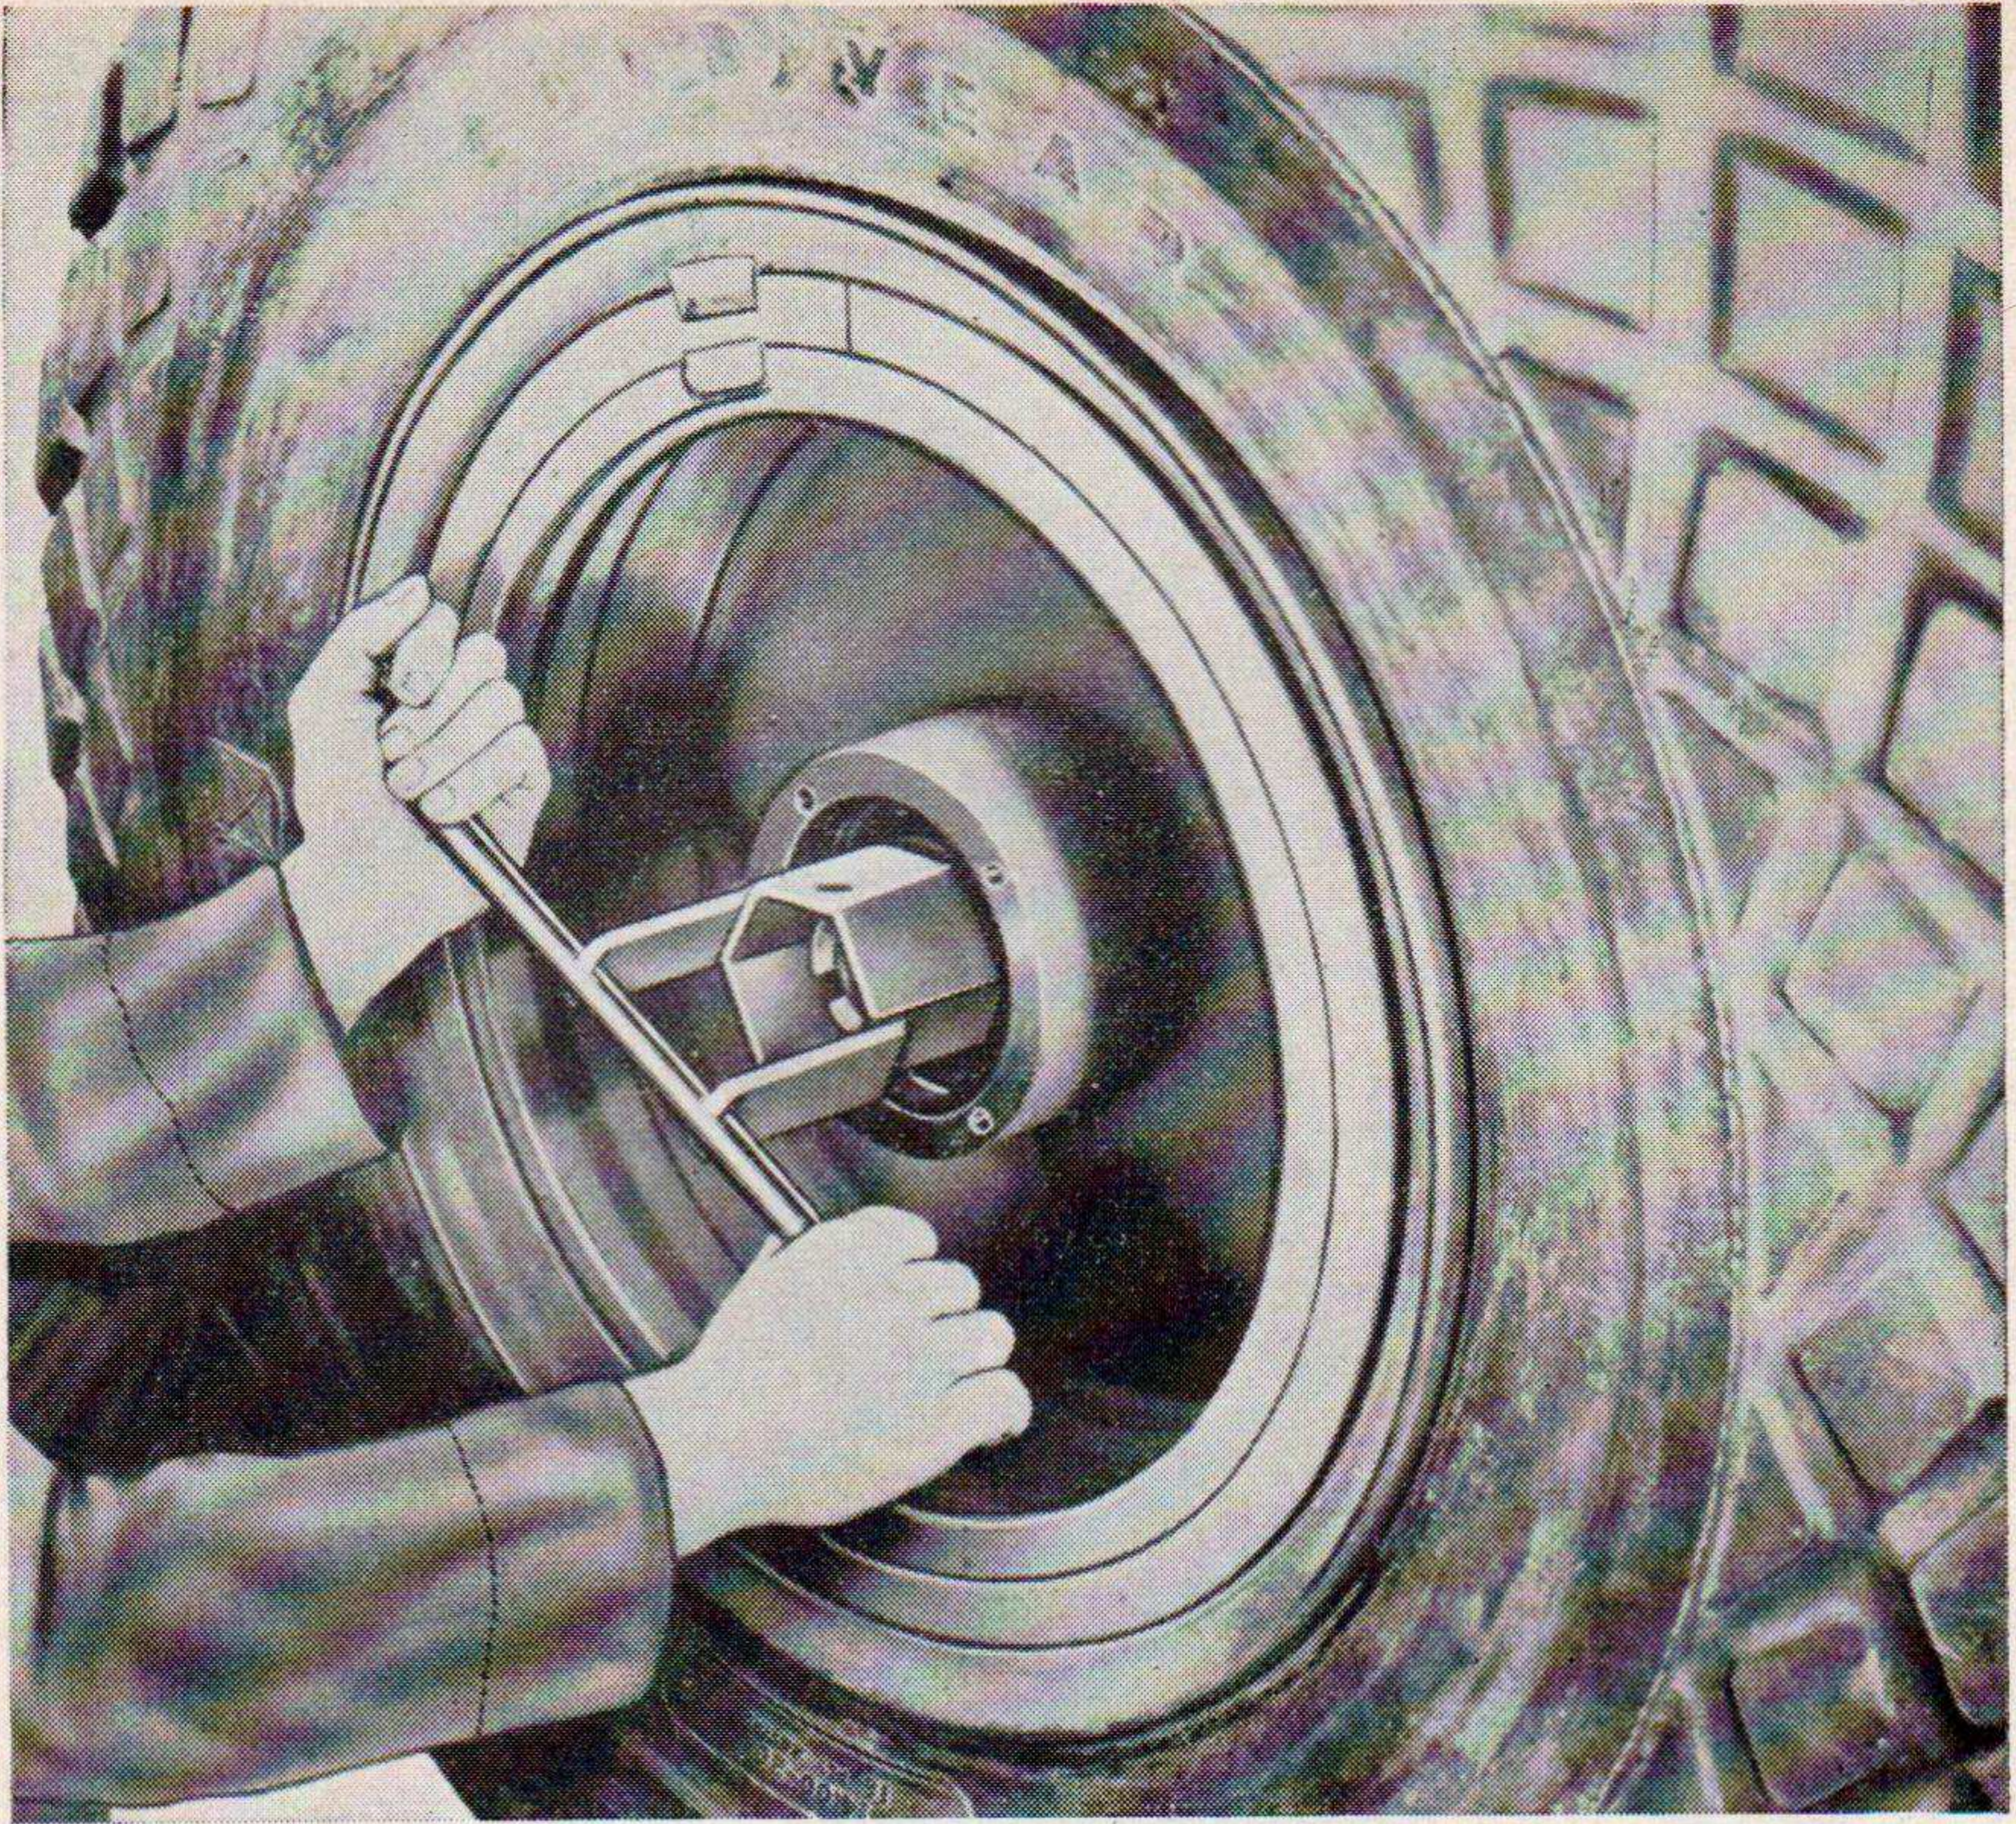

Figure 23. Adjusting scraper wheel.
- (5) Install the slotted bearing adjusting nut (7). At this point the wheel should be adjusted. Tighten the nut securely to properly seat all parts (fig. 23). Back off the nut one or two castellations, or until the wheel runs freely without perceptible end play.